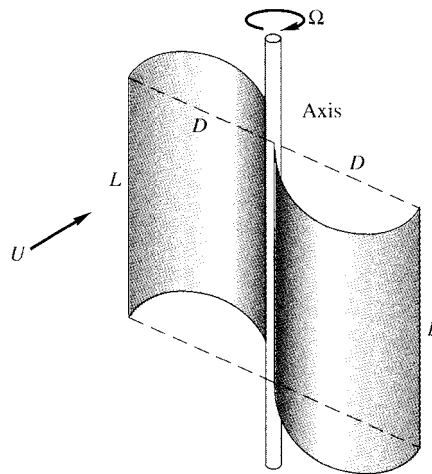

Fig. P7.96
**7.96** A Savonius rotor (see Fig. 6.29*b*) can be approximated by the two open half-tubes in Fig. P7.96 mounted on a central axis. If the drag of each tube is similar to that in Table 7.2, derive an approximate formula for the rotation rate  $\Omega$  as a function of  $U$ ,  $D$ ,  $L$ , and the fluid properties  $\rho$  and  $\mu$ .